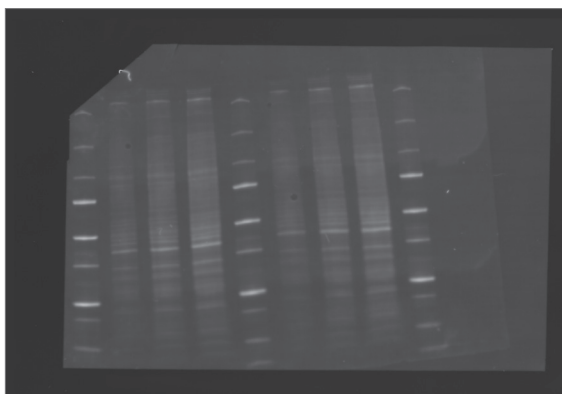
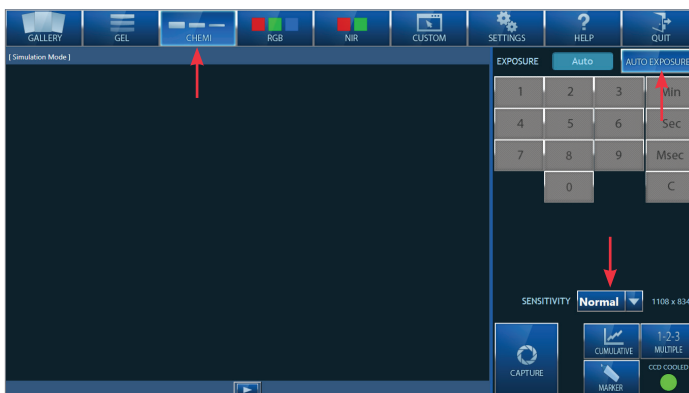

Figure 3. Image of total protein on membrane after transfer of proteins from gel shown in Figure 2.
Figure 4. Settings to capture Western blot image in cSeries Capture.
**Imaging:** The blot was imaged on the UV transilluminator using UV light (302 nm) for 1 min. The image is shown in Figure 3.
**Imaging:** In the cSeries Capture software, the **CHEMI** tab was selected in the top menu, and **Normal** sensitivity (Figure 3). The blot was imaged using **AUTO EXPOSURE** (Figure 4).